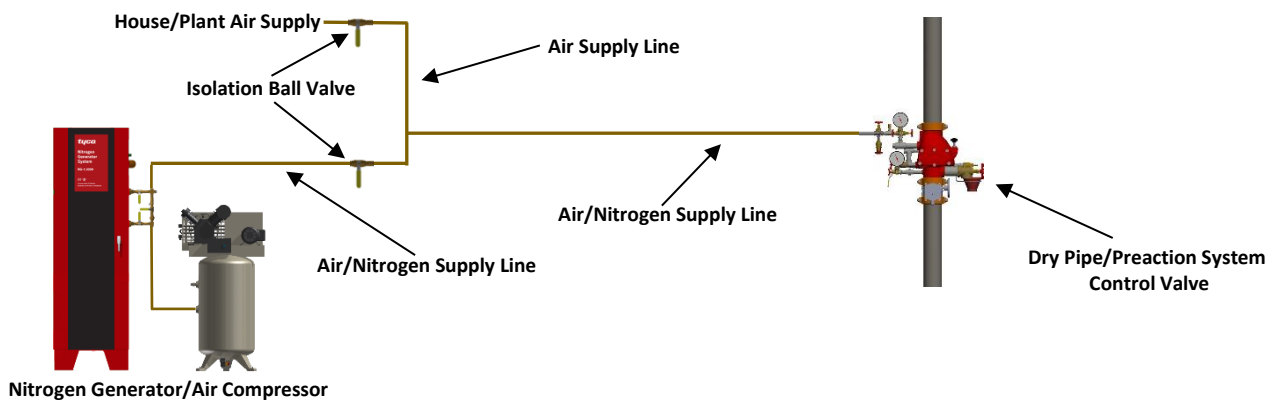

Figure 3c
Step 6c: Plumb the Nitrogen/Air Supply Line – With House/Plant Air Supply (Figure 3c)